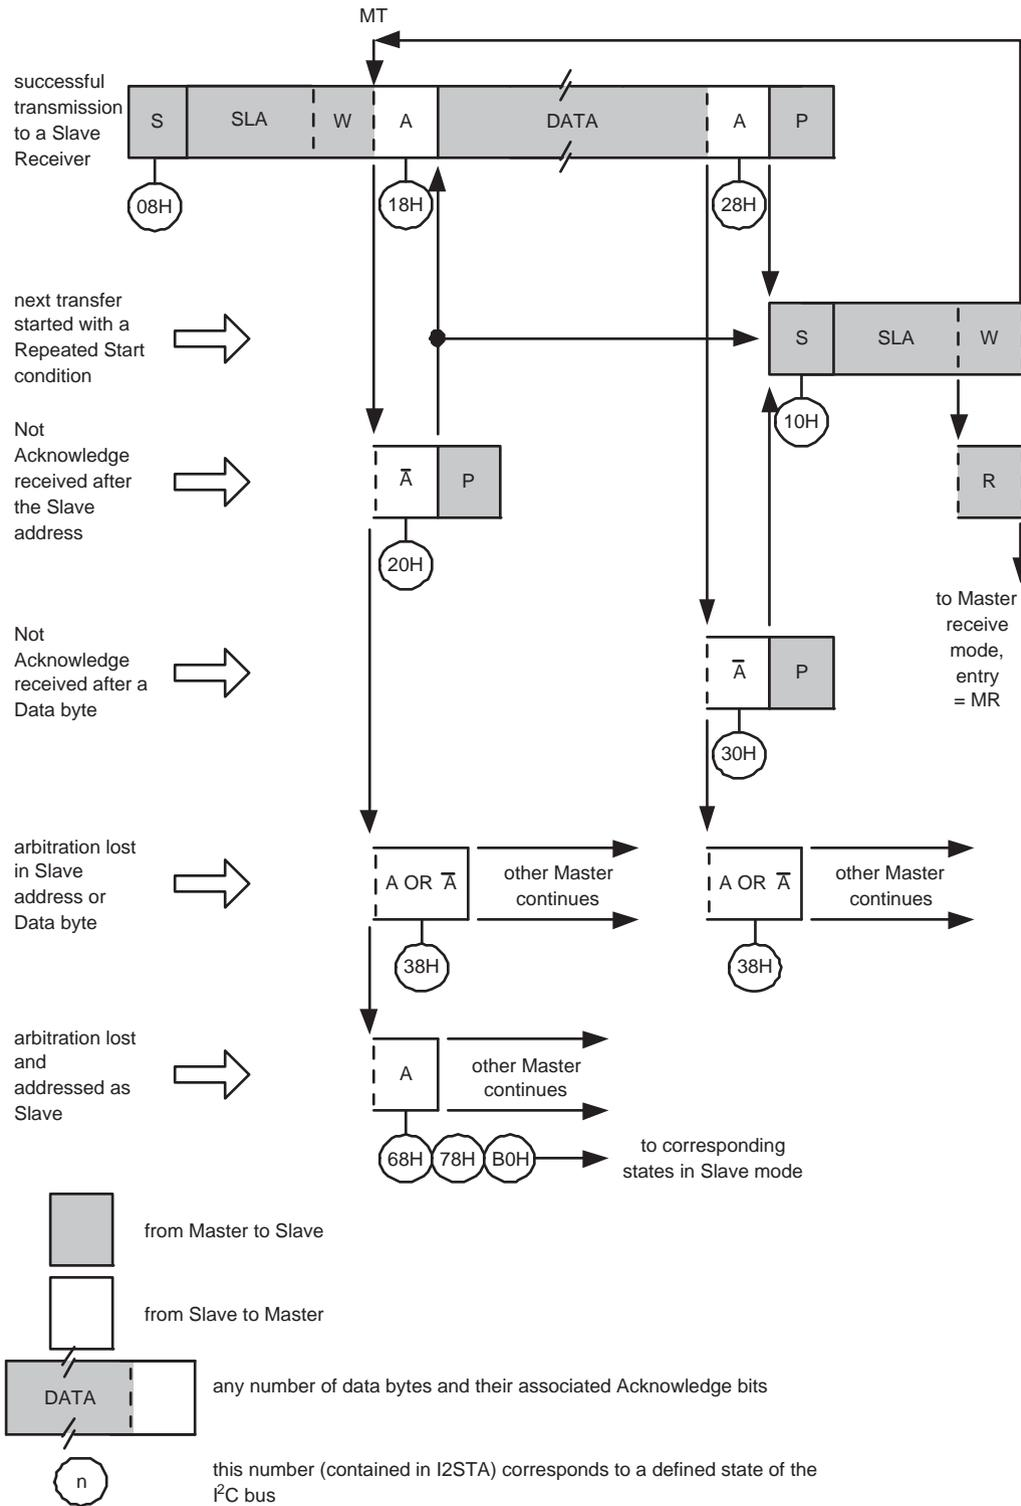
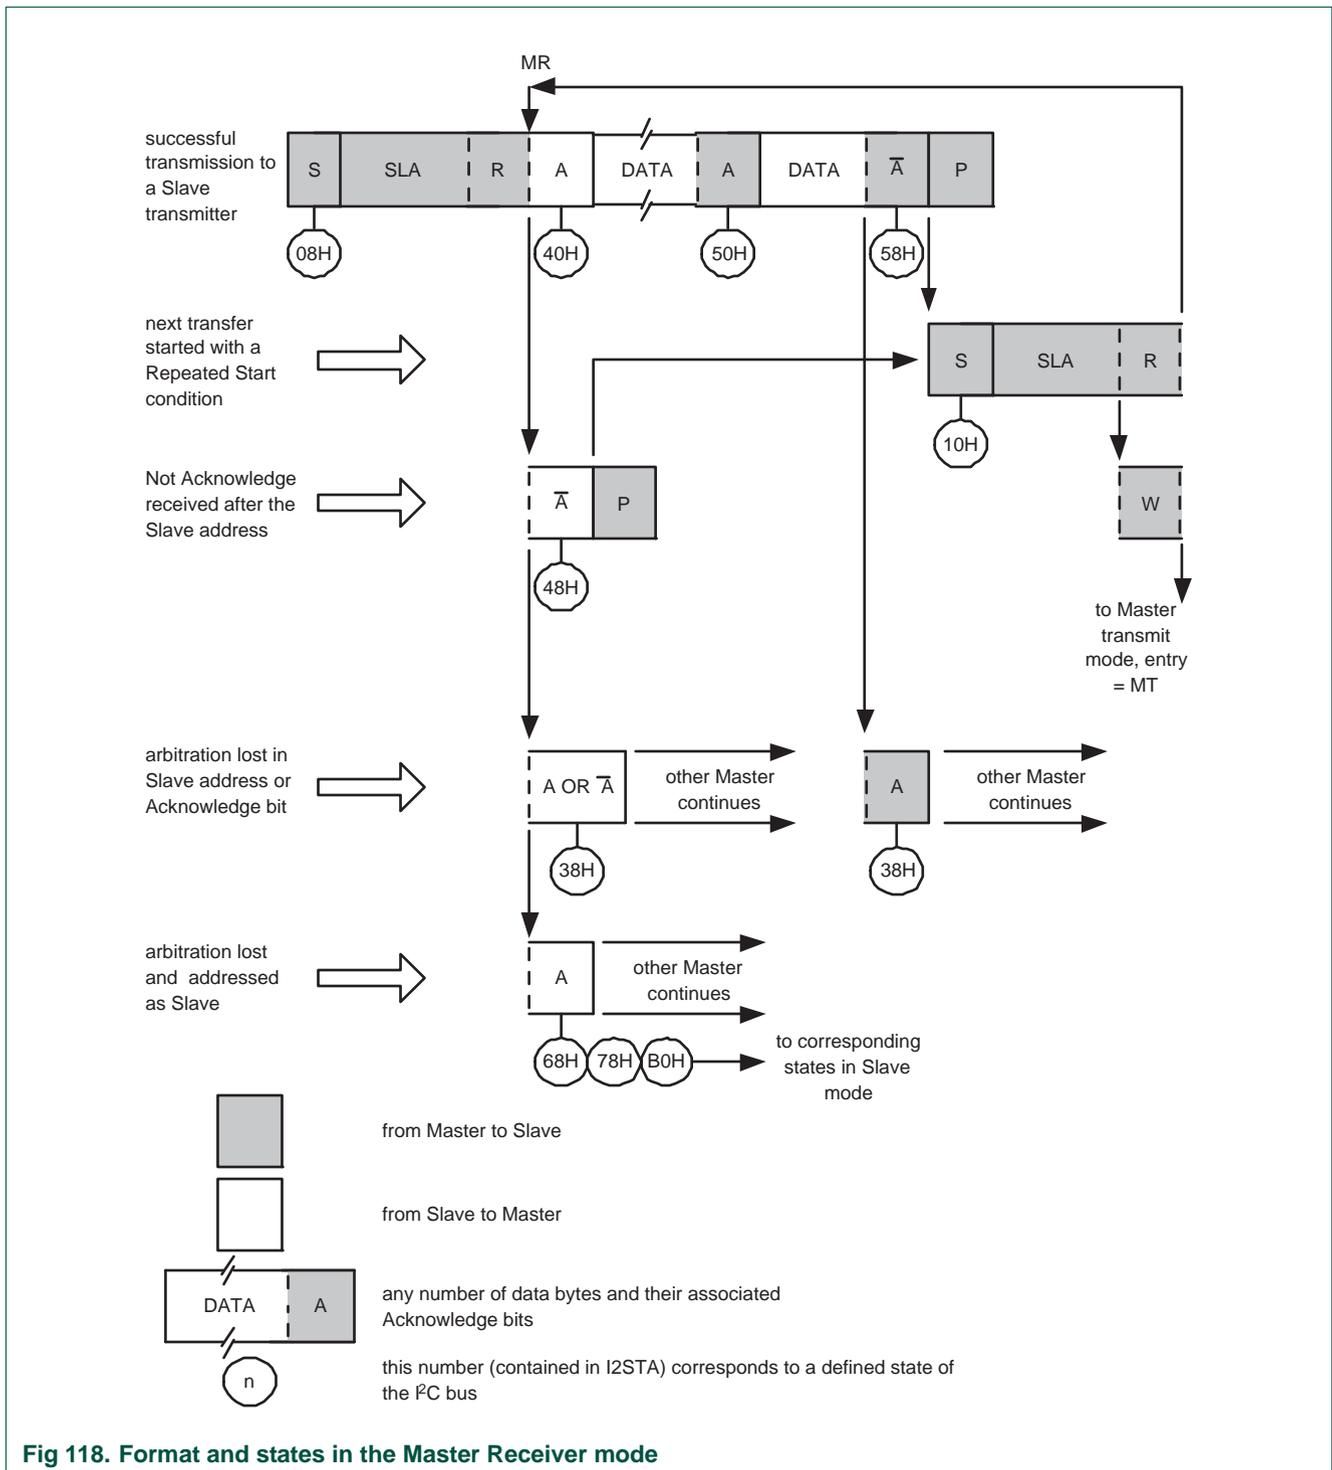
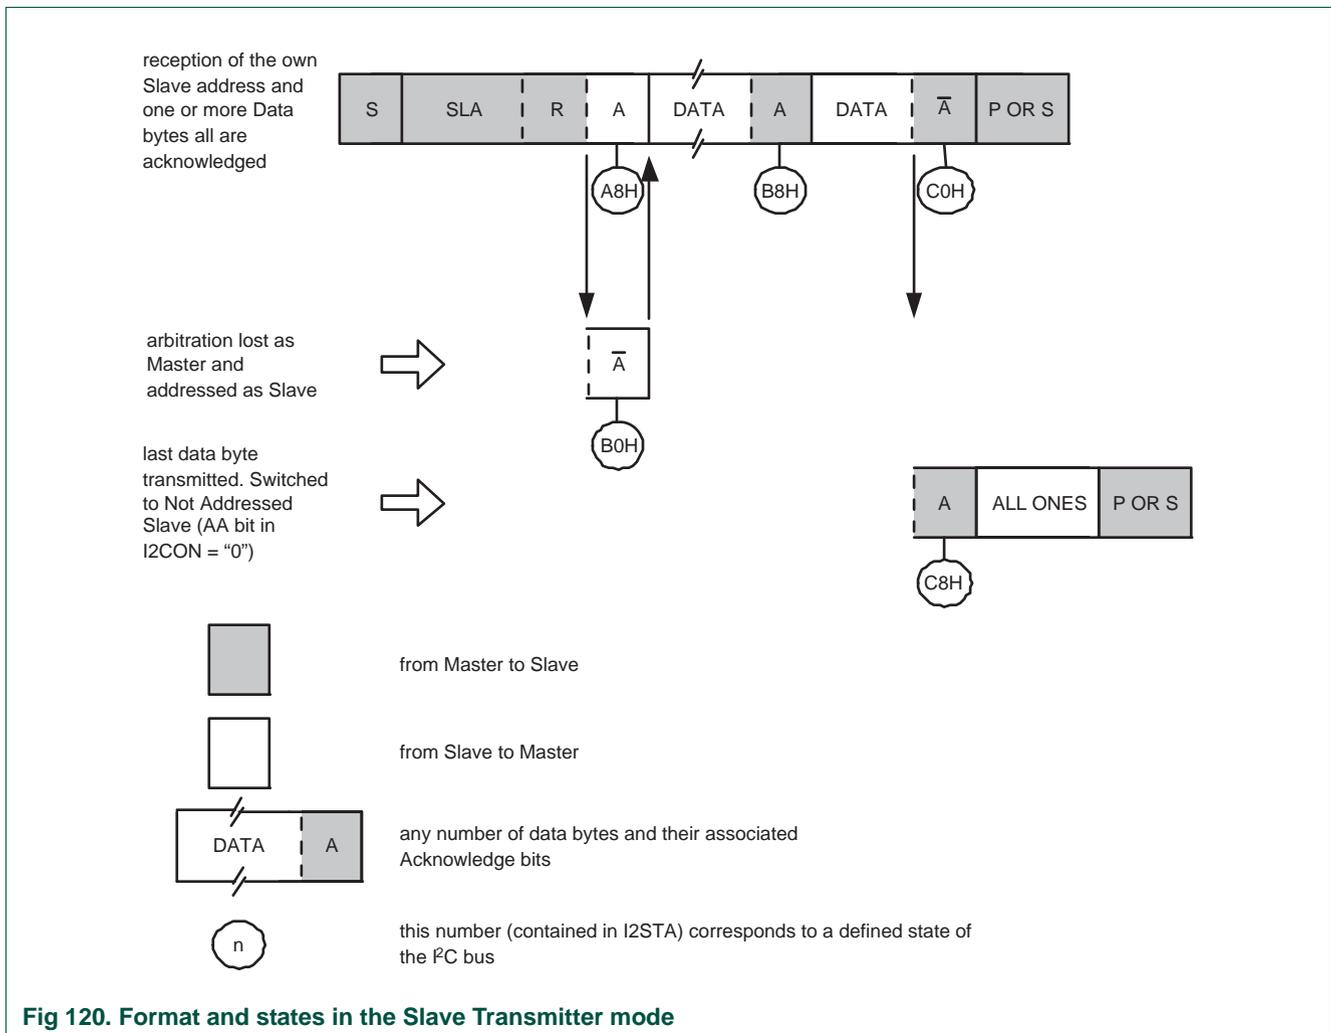

Fig 117. Format and states in the Master Transmitter mode
Fig 118. Format and states in the Master Receiver mode
Fig 120. Format and states in the Slave Transmitter mode
Data transfers in each mode of operation are shown in Figure 117, Figure 118, Figure 119, Figure 120, and Figure 121. Table 504 lists abbreviations used in these figures when describing the I2C operating modes.
In Figure 117 to Figure 121, circles are used to indicate when the serial interrupt flag is set. The numbers in the circles show the status code held in the I2STAT register. At these points, a service routine must be executed to continue or complete the serial transfer. These service routines are not critical since the serial transfer is suspended until the serial interrupt flag is cleared by software.
In the master transmitter mode, a number of data bytes are transmitted to a slave receiver (see Figure 117). Before the master transmitter mode can be entered, I2CON must be initialized as follows:
In the master receiver mode, a number of data bytes are received from a slave transmitter (see Figure 118). The transfer is initialized as in the master transmitter mode. When the START condition has been transmitted, the interrupt service routine must load I2DAT with the 7-bit slave address and the data direction bit (SLA+R). The SI bit in I2CON must then be cleared before the serial transfer can continue.
In the slave transmitter mode, a number of data bytes are transmitted to a master receiver (see Figure 120). Data transfer is initialized as in the slave receiver mode. When I2ADR and I2CON have been initialized, the I2C block waits until it is addressed by its own slave address followed by the data direction bit which must be "1" (R) for the I2C block to operate in the slave transmitter mode. After its own slave address and the R bit have been received, the serial interrupt flag (SI) is set and a valid status code can be read from I2STAT. This status code is used to vector to a state service routine, and the appropriate action to be taken for each of these status codes is detailed in Table 510. The slave transmitter mode may also be entered if arbitration is lost while the I2C block is in the master mode (see state 0xB0).